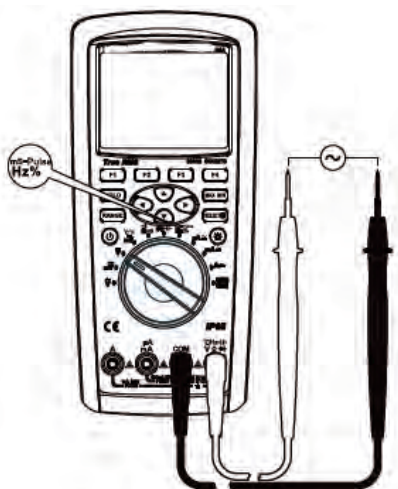

Figure 11
- 2) Set the rotary switch to the measurement Hz% ms-Pulse position. Press the SELECT key to select Hz, Duty Cycle (%), or ms-Pulse. Connect the test leads to the signal source under test in parallel as shown in Figure 11.